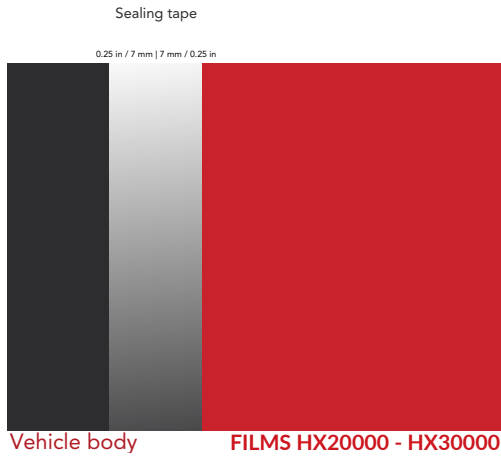

Figure 42
- › Apply the strip by overlapping it by approximately 7 mm (¼ in.) over the body work and 7 mm (¼ in.) over the HX20000 - HX30000 film. (FIG. 42)